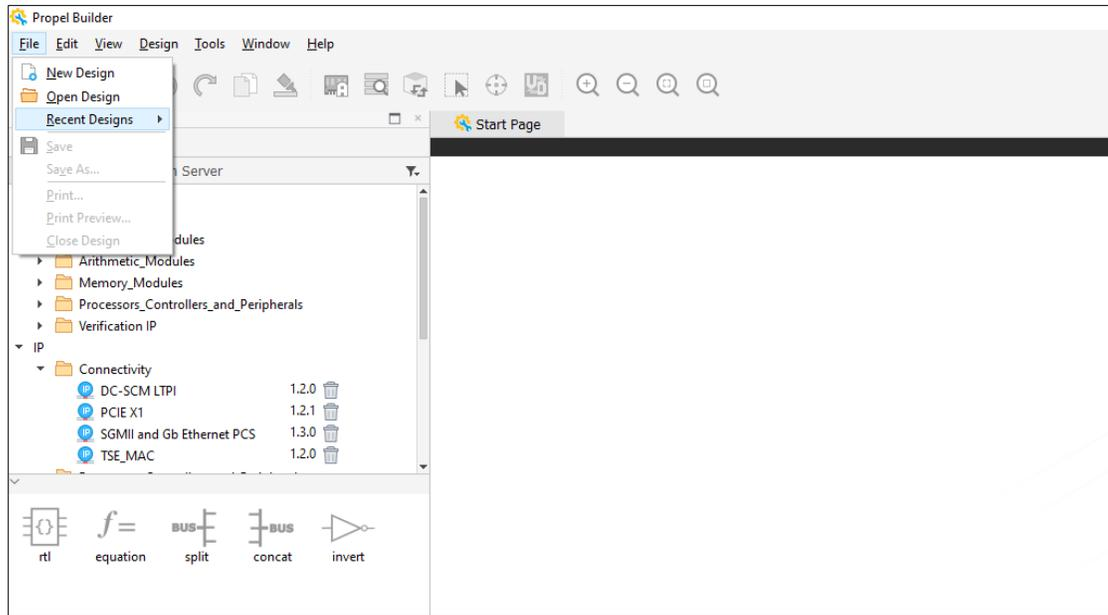

Figure 2.35. Open Recent Project
- You can also use **File > Recent Designs** from Propel Builder Menu (Figure 2.35) to quickly open a recently closed project.